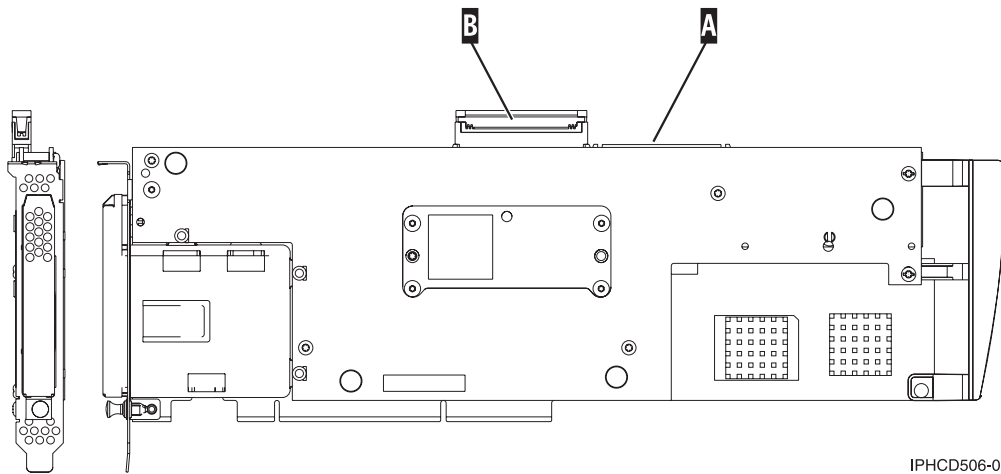

Figure 58. 5708, auxiliary-write cache IOA
2. Attach the cable to SCSI port A on the auxiliary-write cache adapter. See Figure 58 on page 199.